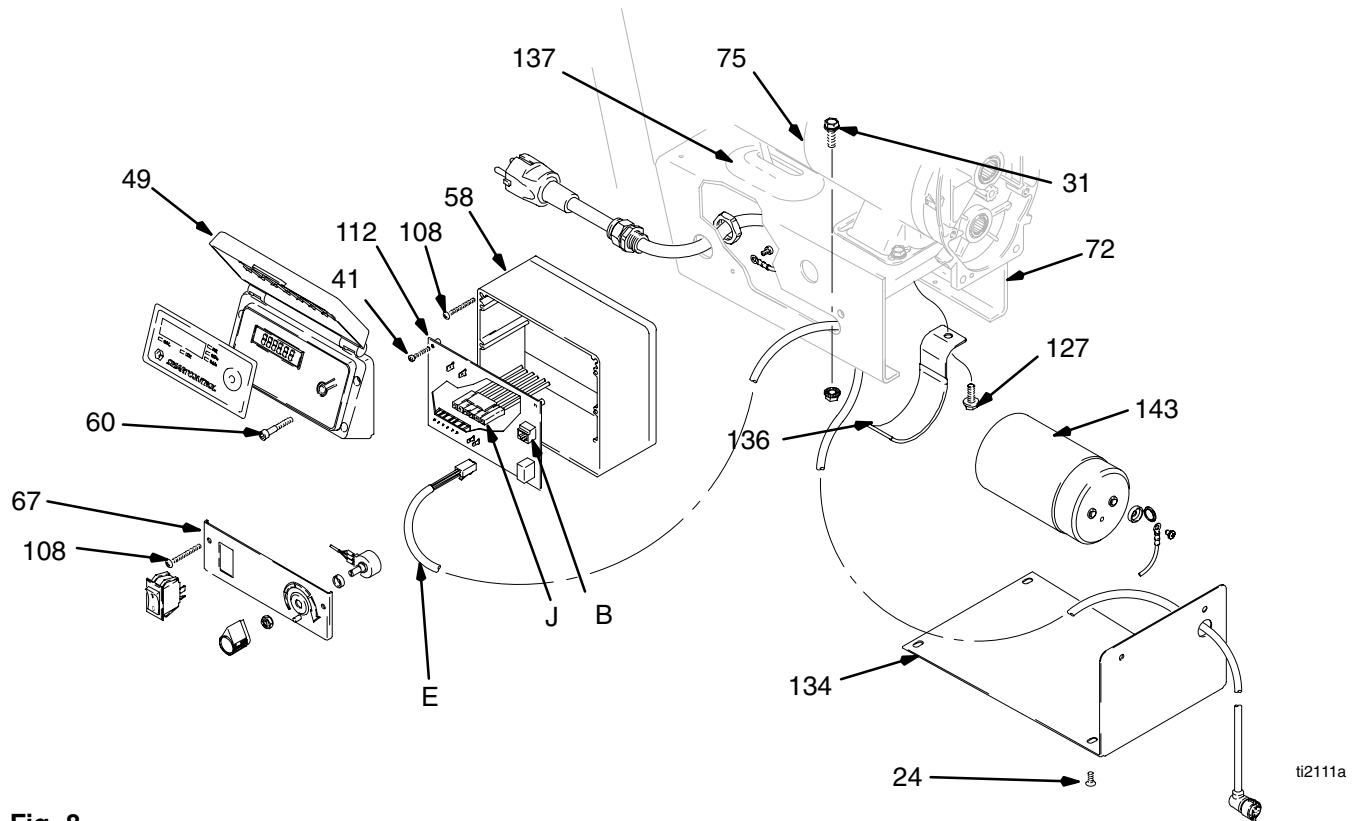

Fig. 8
4. Remove drive housing (78); **Drive Housing Replacement**, page 18.
5. Fig. 8. Remove six screws (24) and bottom cover (134).
6. Remove four screws (60) and cover (49).
7. Disconnect lead at (B) from board (112).
8. Remove bottom two screws (108) and panel (67).
9. Remove two top screws (108), and control housing (58).
10. Disconnect motor connector (J) from control board (112). Press tab to release.